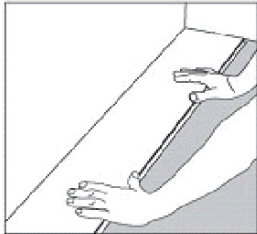

Figure 1
1. Starting from the Right with the tongue facing the wall, carefully place the first board in place. (Figure 1)